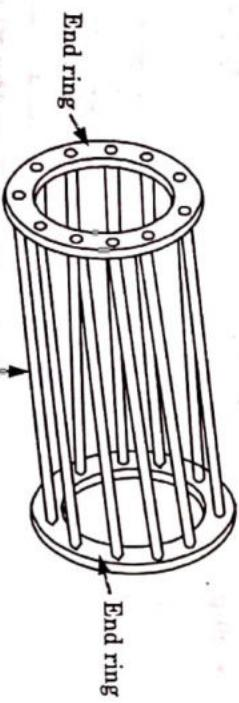

**Fig. 4.18.1. Diagram of 3-phase induction motor.**
- The stator windings, stator and the AC supply connected to the stator winding are shown in Fig. 4.18.1.